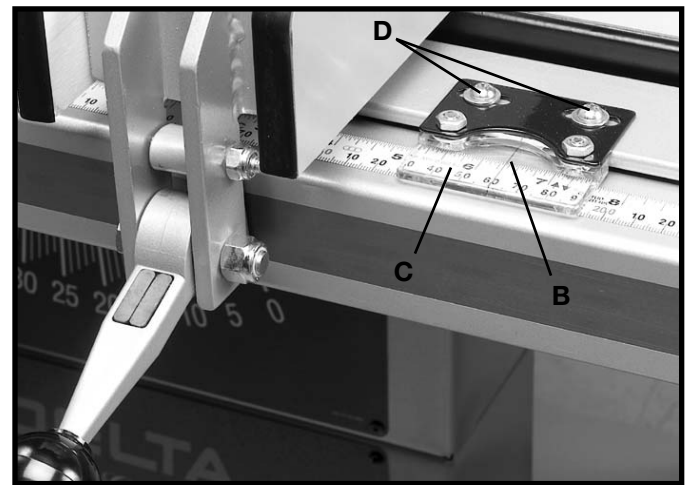

Fig. 144
2. The distance the fence is positioned away from the blade is indicated by the witness line (B) Fig. 144, located on the cursor (C). If it is necessary to adjust the cursor (C), make a test cut with the fence locked in position. Measure the width of the finished cut and adjust the cursor (C) by loosening the two screws (D), adjusting the cursor (C) until the witness line (B) is aligned with the same marking on the scale as the finished cut. Then tighten the two screws (D).